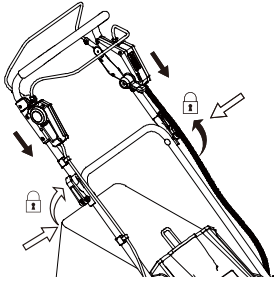

FIG. 2
2. Pass the bolts through the mounting holes of handles (Fig. 2).
3. Attach the washer to the bolt and secure the upper handle bar by turning the lever up for tightening (Fig. 2).